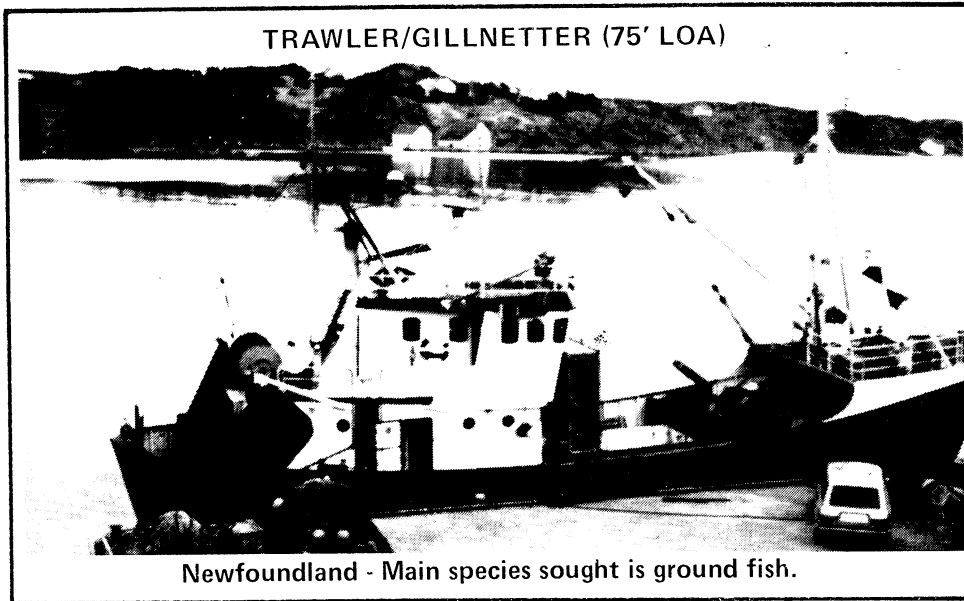

Figure 8-74 Trawler/Gillnetter (75 feet LOA) — Newfoundland —
- h. **Fishing Vessels** — (See Figures 8-74 to 8-78.) Fishing vessels come in a variety of types and sizes, depending on the type of fish sought and the area of operations (offshore or deep-sea). Many vessels are designed to use several fishing methods, depending on the availability of species. Several types are illustrated, for information and interest.